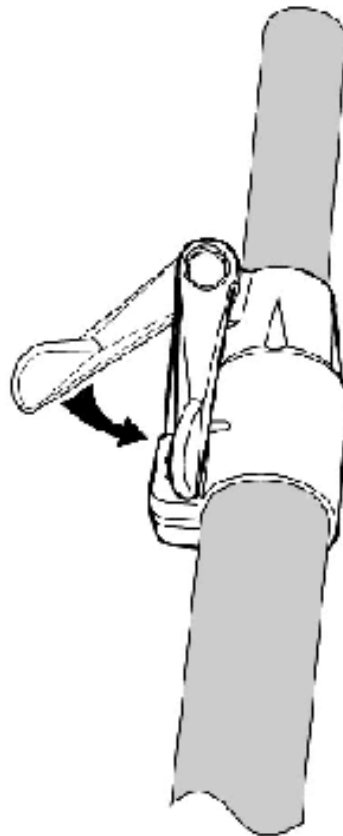

Figure 1 – Over Centre Locking Mechanism
- Stand directly below the cable to be raised and extend telescopic rod, locking the joints securely (see **Figure 1**), using the over centre locking mechanism, until the head is level with the cable.
Note: Ensure that Latches are completely closed. See **Figure 1**.